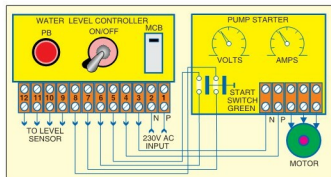

Fig. 5: Connection diagram of the automatic water level controller
2. Connect a 60W bulb (in place of motor) at output points 3 and 4 of the terminal connectors as shown in Fig. 5.